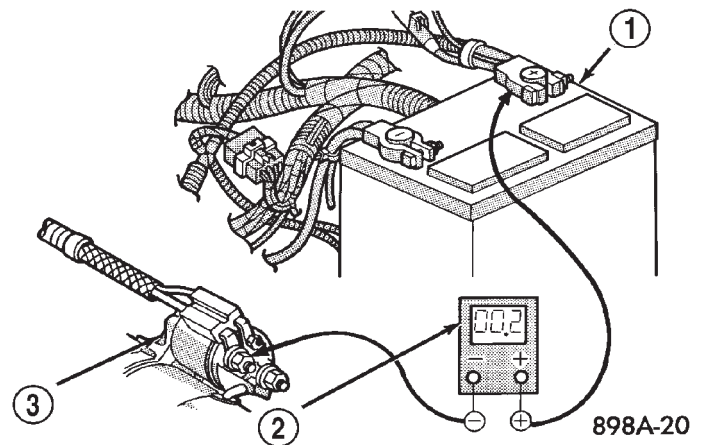

Fig. 6 Test Battery Positive Cable Resistance - Typical
(3) Connect the voltmeter to measure between the battery positive cable terminal clamp and the starter solenoid B(+) terminal stud (Fig. 6). Rotate and hold the ignition switch in the Start position. Observe the voltmeter. If the reading is above 0.2 volt, clean and tighten the battery positive cable eyelet terminal connection at the starter solenoid B(+) terminal stud. Repeat the test. If the reading is still above 0.2 volt, replace the faulty battery positive cable.